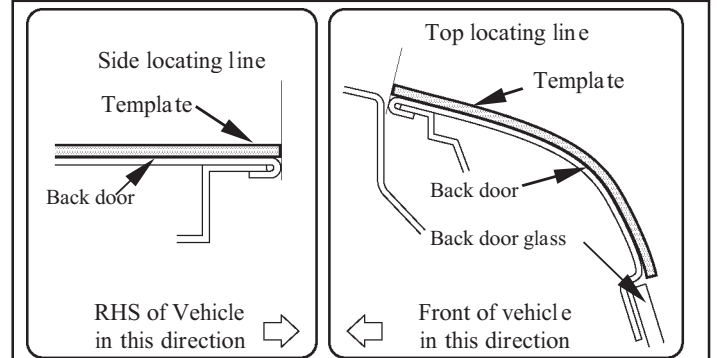

Fig. B-1
- ➔ 1. Align right hand side paper template as shown in Fig. B-1.